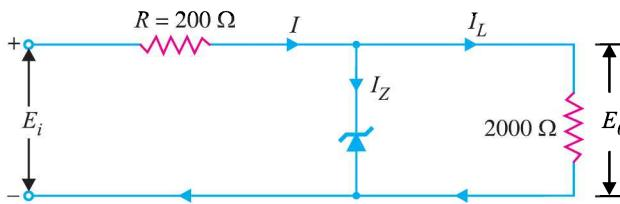

Fig. 6.68
**Example 6.32.** Over what range of input voltage will the zener circuit shown in Fig. 6.68 maintain 30 V across 2000  $\Omega$  load, assuming that series resistance  $R = 200 \Omega$  and zener current rating is 25 mA?